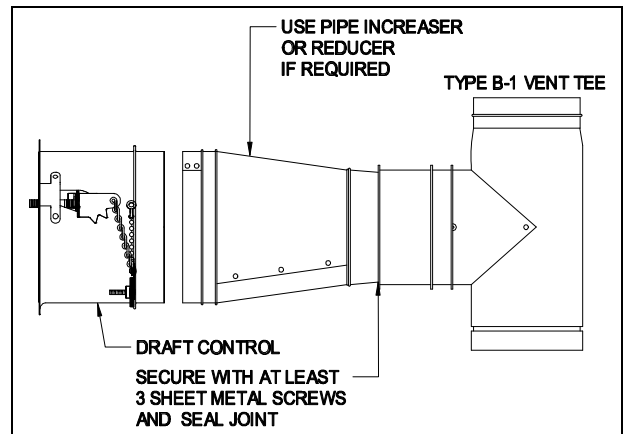

Figure 5
1. Install a vent pipe reducer or increaser into the inner pipe and fasten using sheet metal screws. (See Figure 5)
Use a spirit level and level accurately. (See Figure 5) Secure the control in the collar by tightening the clamping screws. If a tee is used or a collar is supplied locally, the control may be held in place by sheet metal screws.